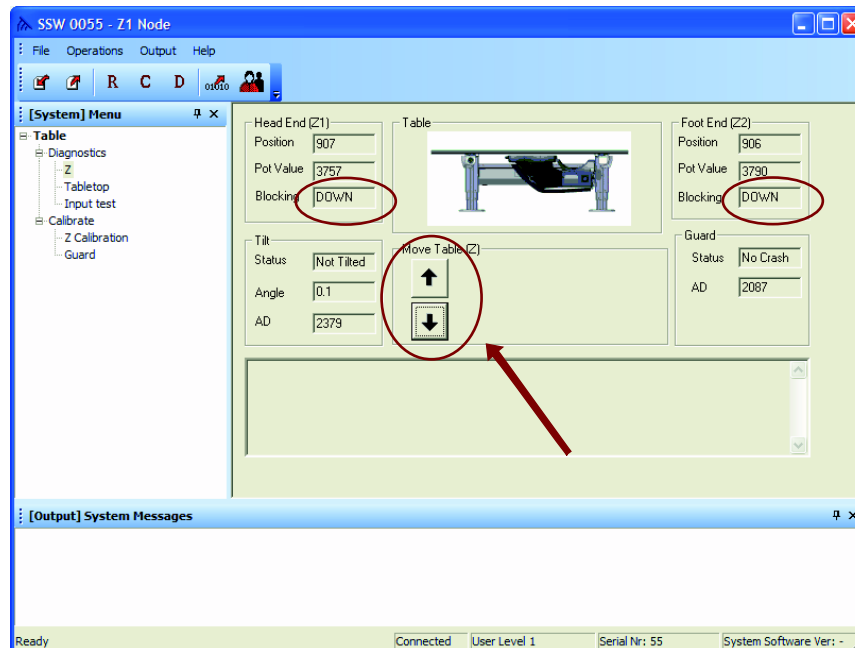

Fig. 4-162 Press Arrow Down
12. Press the *Arrow Down* button and keep it pressed until the text “NO” is visible in the *Blocking edit box* for both the *Head End* and the *Foot End*, see **Fig. 4-162**.